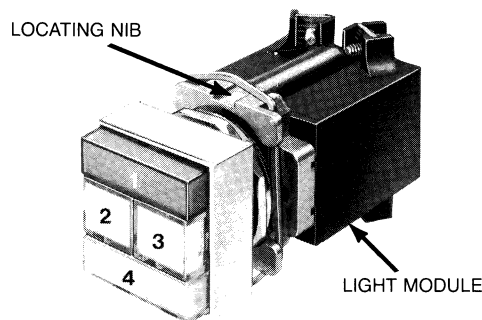

FIGURE 5
- c. Align light module to the basic operator as shown in Figure 5 and push together.